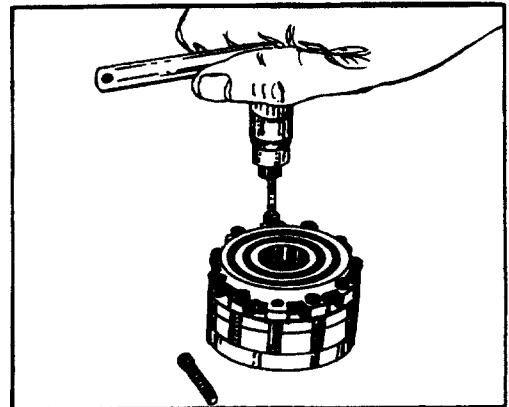

FIGURE 23.
- remove cap screws** 27. Remove the eleven hex socket head screws (18), that hold the metering package together. See figure 23. Use a 3/32 inch Allen wrench. Inspect screws for thread and socket damage and replace as required.